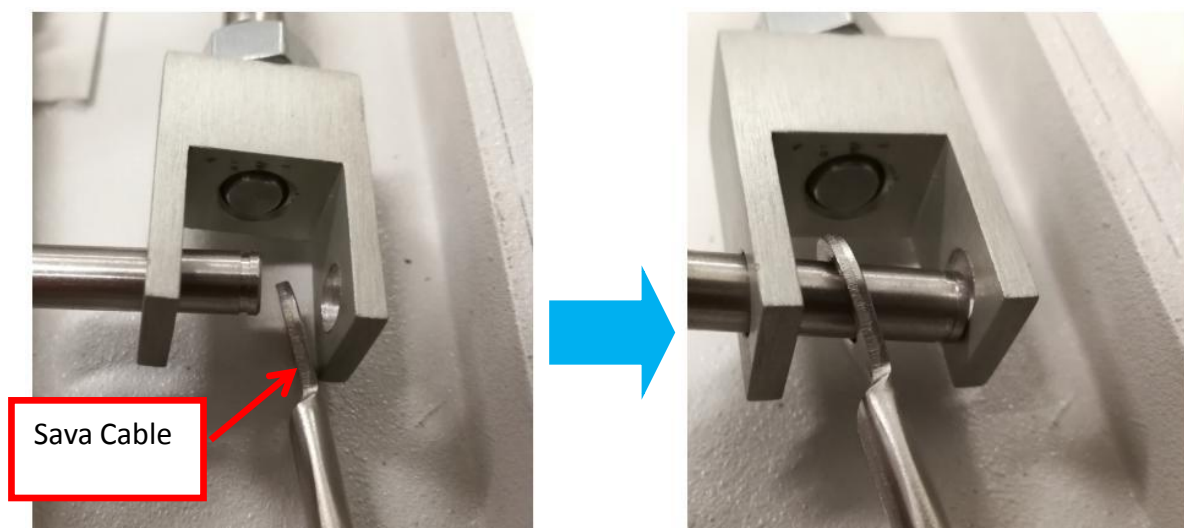

Figure 17
21. Gently slot Sava cable into dowel pin where attach with Front Extension Block as Figure 17